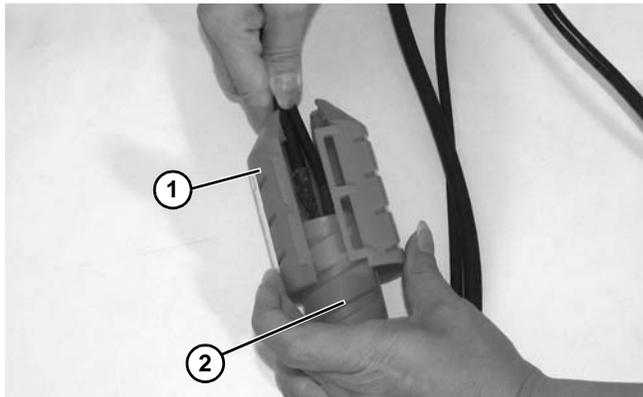

Figure 17
2. Remove outer cord cover (Figure 17, item 1) from inner cord cover (Figure 17, item 2).